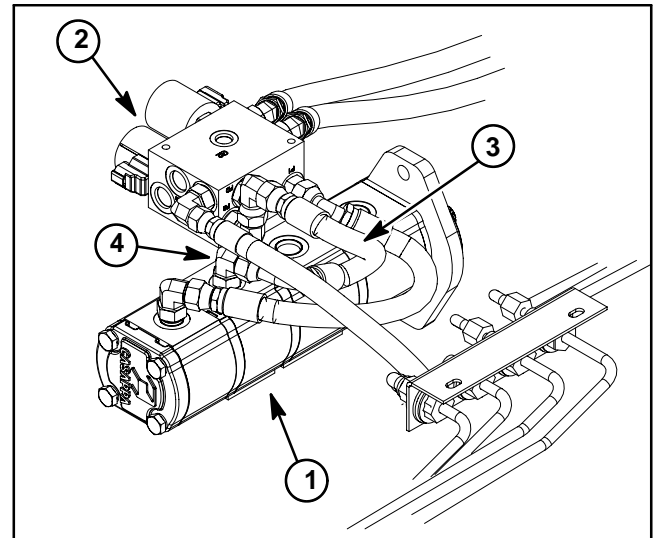

Figure 43
3. With the engine off and cutting deck lowered, disconnect the hydraulic hose from the 90° fitting in the third gear pump section which supplies the steering and lift/lower circuits (Fig. 43).
3. With the engine off and cutting deck lowered, disconnect the hydraulic hose from the 90° fitting in the last gear pump section which supplies the engine cooling circuit (Fig. 43).